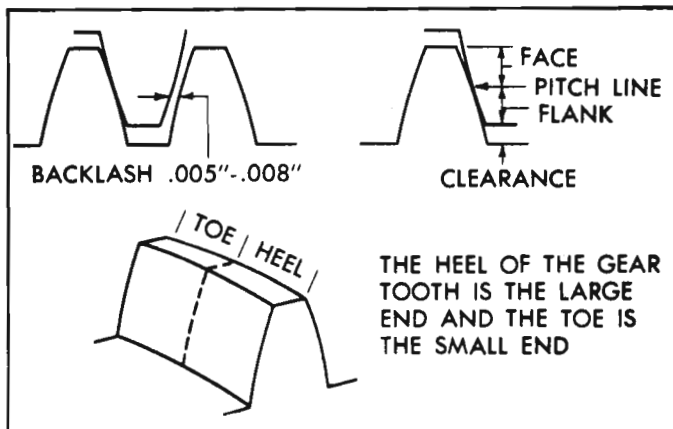

Fig. 6C-53—Gear Tooth Nomenclature
4. Inspect the contact pattern produced and analyze the results relative to the following data. Figure 6C-53 provides gear tooth nomenclature and figure 6C-54 illustrates the various contact patterns which may be experienced.
Figure 6C-54 shows correct and incorrect contact patterns. For illustrative purposes, "coast" side of gear contact is shown. Drive and coast side of gear teeth will have identical contact patterns.